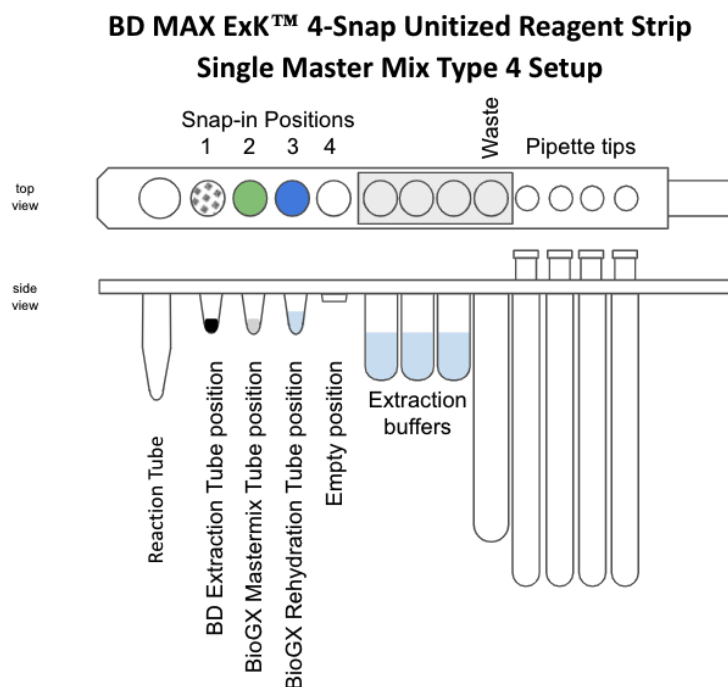

Figure 1 – Diagram of BD MAX™ ExK™ 4-snap Unitized Reagent Strips
4. Snap one BD MAX™ ExK™ DNA-1 Extraction Tube into position 1 (Snap-1) of each Unitized Reagent Strip. (Figure 1)